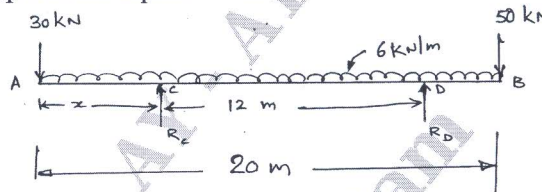

Fig.Q6(b)
b. A beam 20m long supported on two intermediate supports, 12m apart, carries an u.d.l. of 6 kN/m and two concentrated loads of 30 kN at left end A and 50 kN at right end B as shown in Fig.Q6(b). How far away should the support C be located from end A so that the reactions at both the supports are equal?